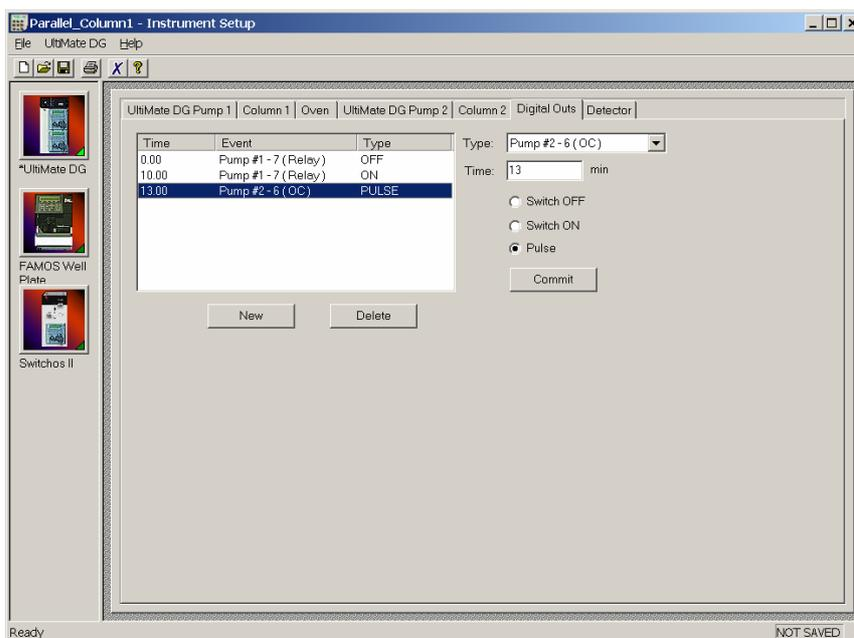

FIGURE 3-18 Controlling the Nano Switching Valve and the UV Autozero
- d) To control the position of the Nano Switching Valve and the autozero signal of the UV Detector (if installed) by the event output 7 and 6 of the UltiMate gradient pump 2, select the **Digital Outs** tab and program the outputs as presented in FIGURE 3-18.